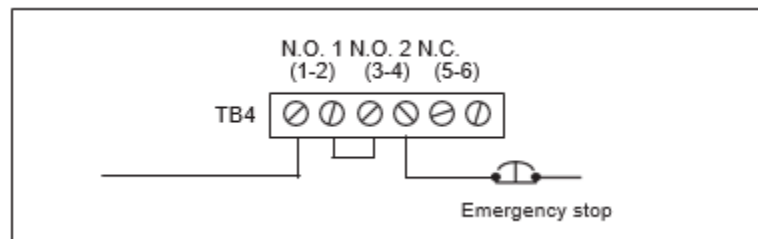

Figure 2-30. Relays Wired to Emergency Stop Circuit, N/O Configuration
2. Connect pins #1 and #4 on TB4 in series with the stop circuits on the press, and place a jumper between pins #2 and #3, as shown in Figure 2-30, page 79, and in Figure 2 at the end of the manual.
To ensure maximum safety, you must wire and program the PLC so it can detect an internal component failure and immediately stop the press. Two of the three outputs from Shadow 9's control relays, labelled "N.O. 1," "N.O. 2," and "N.C." (see Figure 2-30, page 79), must be connected separately to a PLC.